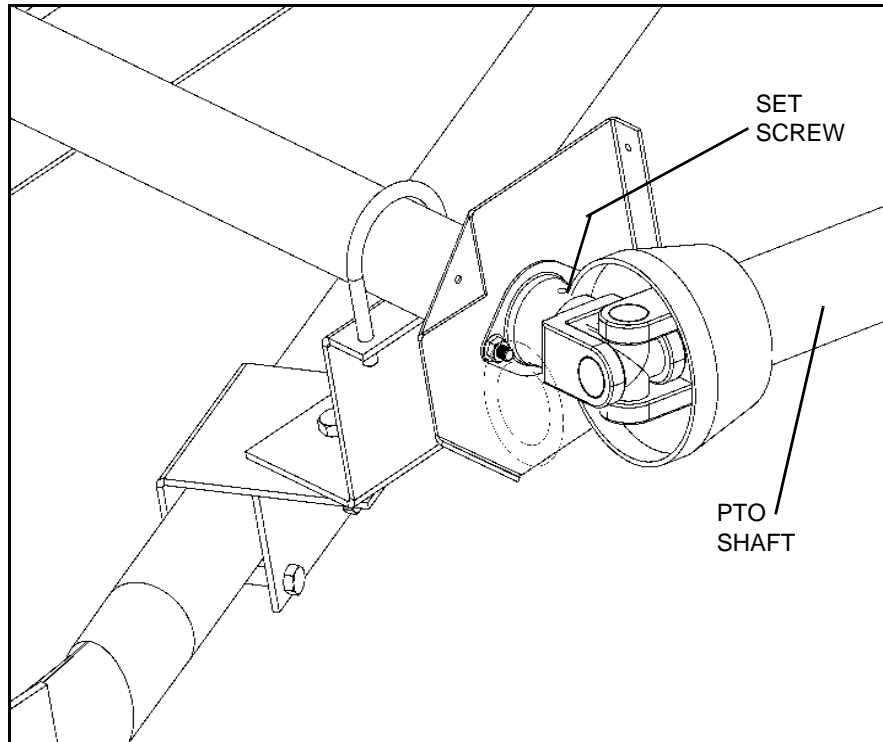

Figure 3.45 PTO Shaft Installation
- Clean paint and dirt from shaft on PTO drive assembly and PTO driveline ends, then attach using a 1/4" x 1-1/2" square key (Figure 3.45). **Tighten set screws.**